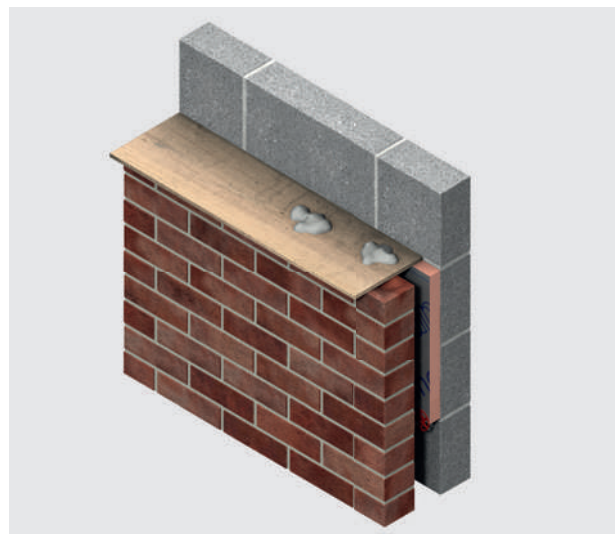

Figure 7: Use of a Cavity Board to Protect the Cavity and Insulation Board Top Edge
- Use of a cavity batten or cavity board is recommended to protect board edges and maintain a clear cavity (see Figures 7 & 8 or refer to BBA Certificate 16/5299).